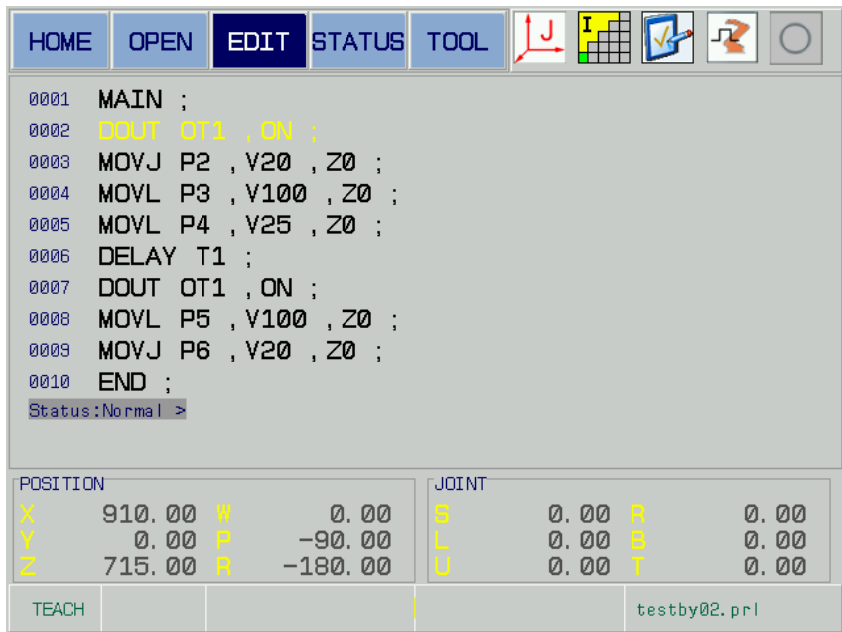

Fig. 5-42
The Fig. 5-42 is regarded as an example, copy the 2nd, 3rd, 4th and 5th line program to the back of the 8th line; refer to the following operation steps:
1. Open the program “testby02.prl”, then enter the program display page; shift to the edit method by [F3]; select the desired copy program start line (the 2nd line) by up/down direction button; refer to the Fig. 5-42